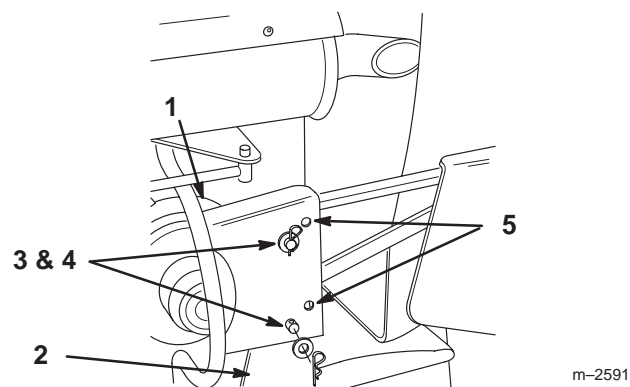

Figure 22
4. Remove hairpin cotters, washers and belt cover from belt guard bracket (Fig. 22),